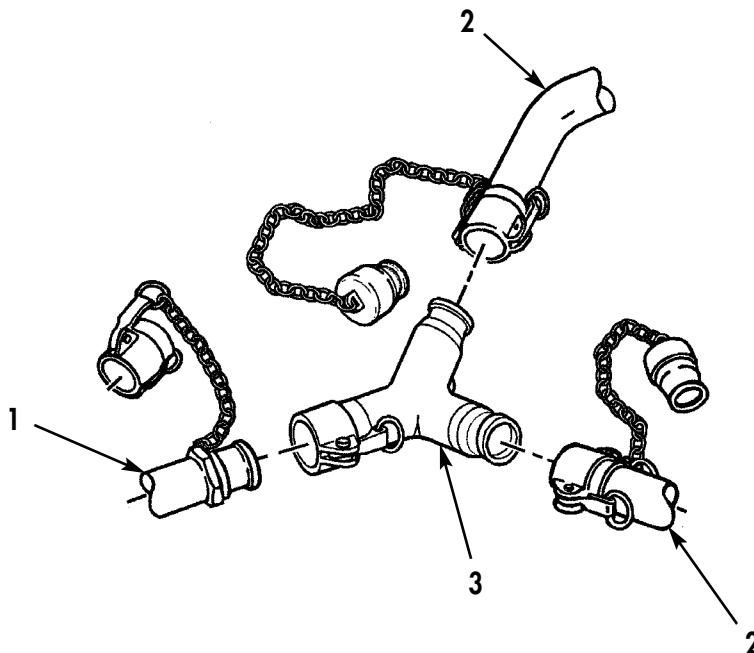

Figure 6. Hose Connections to Y-Fitting.
13. Remove plug and cap, and connect Y-fitting (Figure 6, Item 3) to 2 in. (51 mm) DIA x 10 ft (3 m) long discharge hose assembly (Figure 6, Item 1).
14. Remove two plugs and caps, and connect two 2 in. (51 mm) DIA x 25 ft (7.6 m) long discharge hose assemblies (Figure 6, Item 3) to Y-fitting (Figure 6, Item 3).